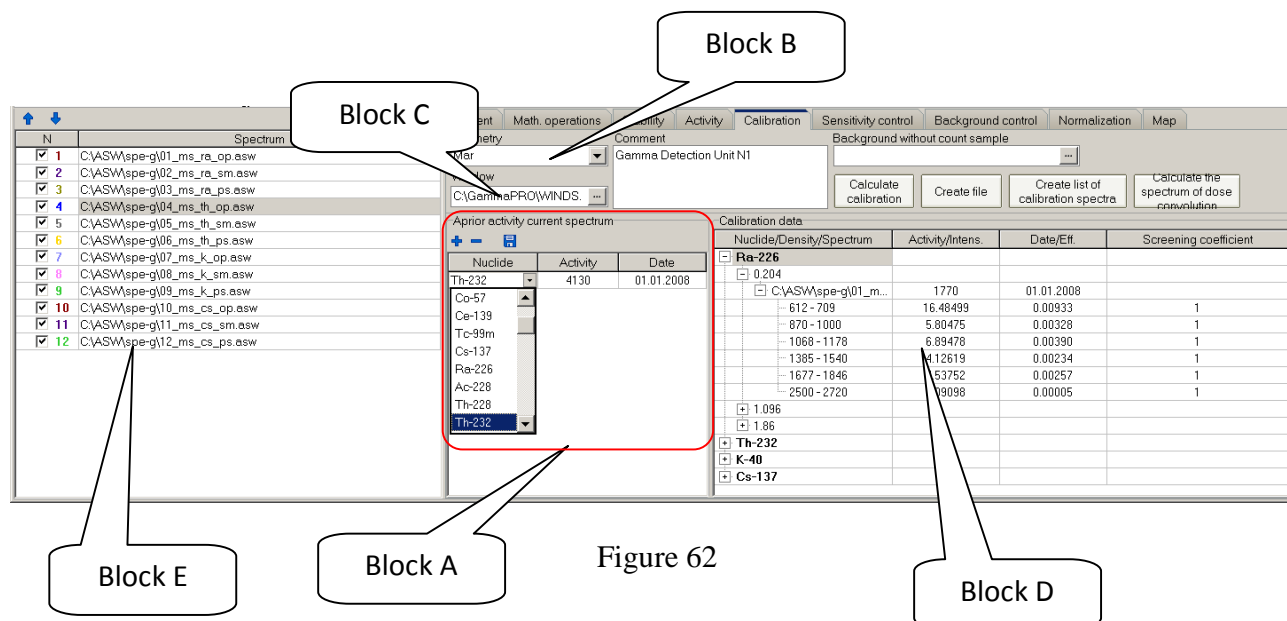

Figure 62
To this end, mark the first spectrum in the spectrum list (Fig. 62, block E) and click button  (see Fig. 62, block A). In column **Nuclide** of the string which will appear below, choose the radionuclide from the drop-down list. Specify the activity or radionuclide concentration in the reference sample in column **Activity**. Specify the certification date of the radionuclide activity or concentration in column **'Date'**. Then click button  to save the data. The procedure described is applied to each spectrum in the main table (Fig. 62, block E).
14.2.6 Choose appropriate geometry in field **Geometry** (Marinelli 1L, 0.25L vessel and so on, see Fig. 62, block B).
14.2.10 All the calculated calibration sensitivity coefficients will appear as a tree structure in field **Calibration data** (see Fig. 62, block D).
In case the spectrometer should be calibrated in units of measurement different from Bq, for example, mass fraction, percent and so on, the calibration procedure remains the same as described in section 14.2. The certified values of the samples and their units of measurement are specified in the table (Fig. 62, block A) with no changes according to paragraph 14.2.5. At the same time, one must additionally edit the output calibration file (*.clb) and specify the proper units of measurement in the string containing the radionuclide's name as shown in the example below.